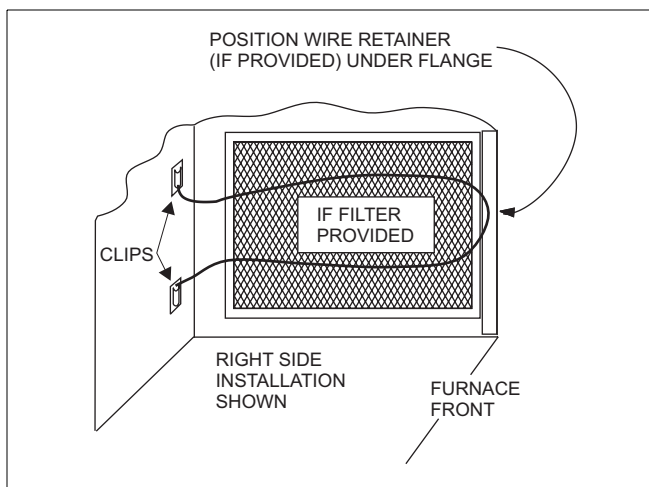

FIGURE 4 : Filter Retainer Placement
3. Install the wire retainer inside the cabinet (if provided). Insert the open ends of the wire retainer into the clip loops at the rear of the blower compartment. The retainer wire should pivot freely like a hinge, on the clips at the rear of the cabinet. (Refer to Figure 4).